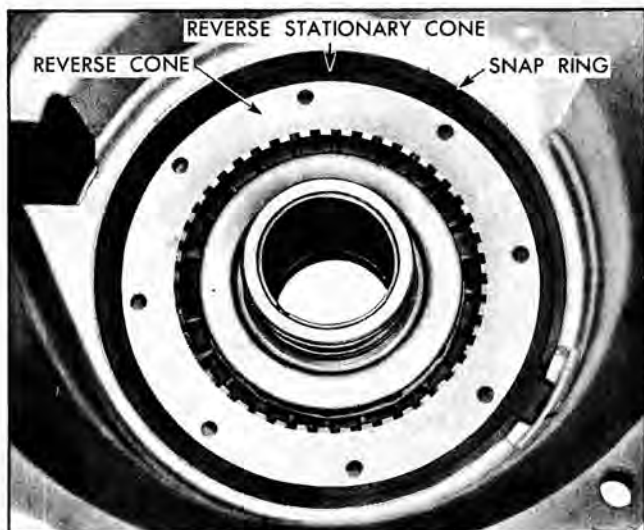

Fig. 116 Reverse Cone in Case
9. Install large reverse cone snap ring into snap ring groove in case with flat ends of snap ring up, and ring gap at open segment of ring groove in case (Fig. 116).